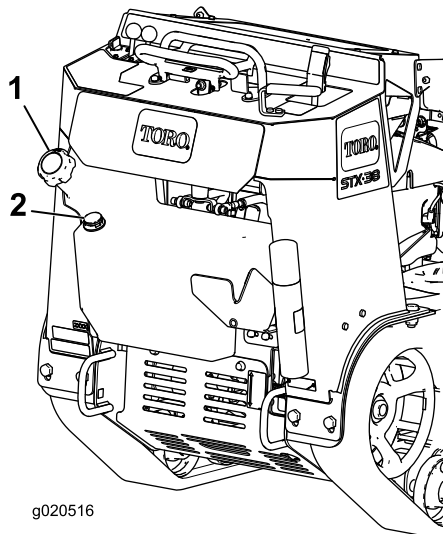

Figure 18
3. Clean around the fuel tank cap and remove it (Figure 18).